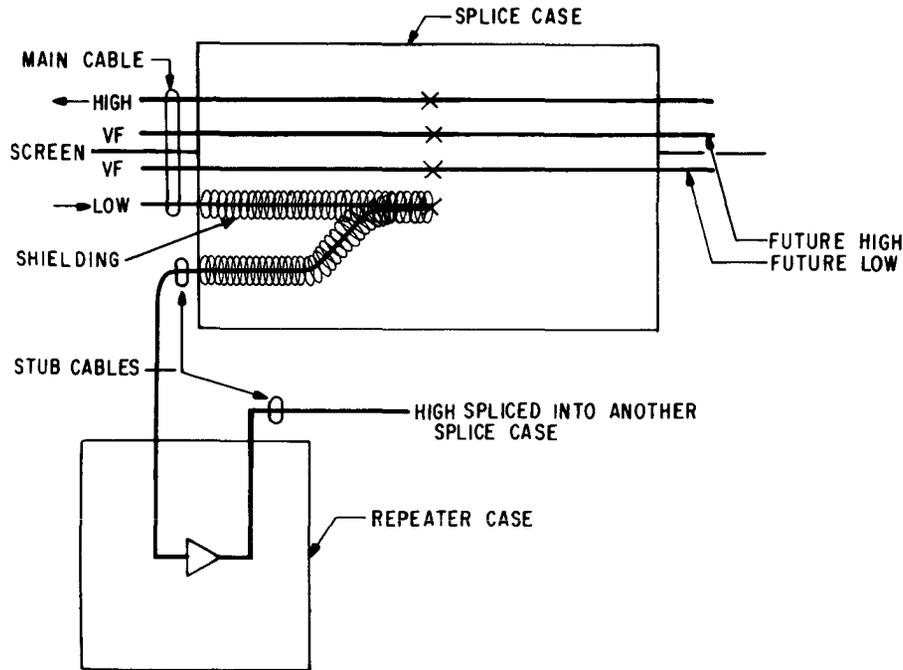

Fig. 27—Shielding Screened Cable With Lows Removed From In-Line Splice
**4.06** Examples of shielding pairs for low level signals from pairs with high level signals in a splice are shown in Fig. 27, 28, and 29.